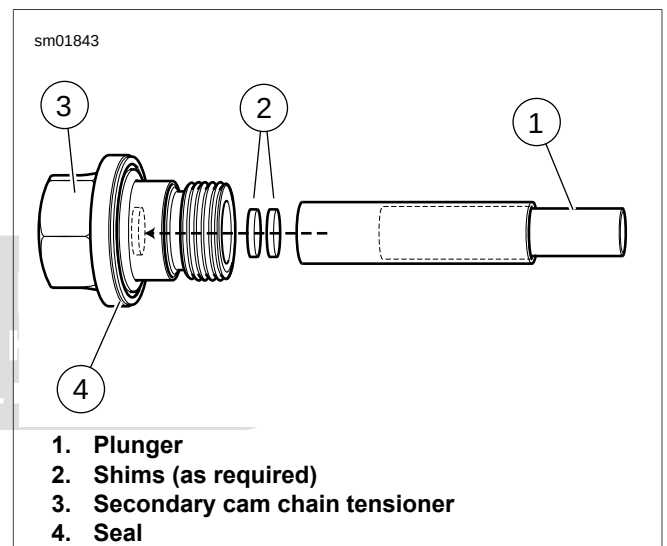

Figure 1-88. Secondary Cam Chain Tensioner
15. See Figure 1-88. Wrap cardboard or heavy cloth around thick shaft on plunger (1). Gently twist while pulling to remove plunger (1) from tensioner (3).
16. Apply a thin film of GENUINE HARLEY-DAVIDSON H-D 360 MOTORCYCLE OIL 20W50 to selected shims (2) and plunger (1).
17. Seat number of selected shims (2) and plunger (1) in tensioner (3).
18. Lubricate tensioner seal (4) with GENUINE HARLEY-DAVIDSON H-D 360 MOTORCYCLE OIL 20W50.